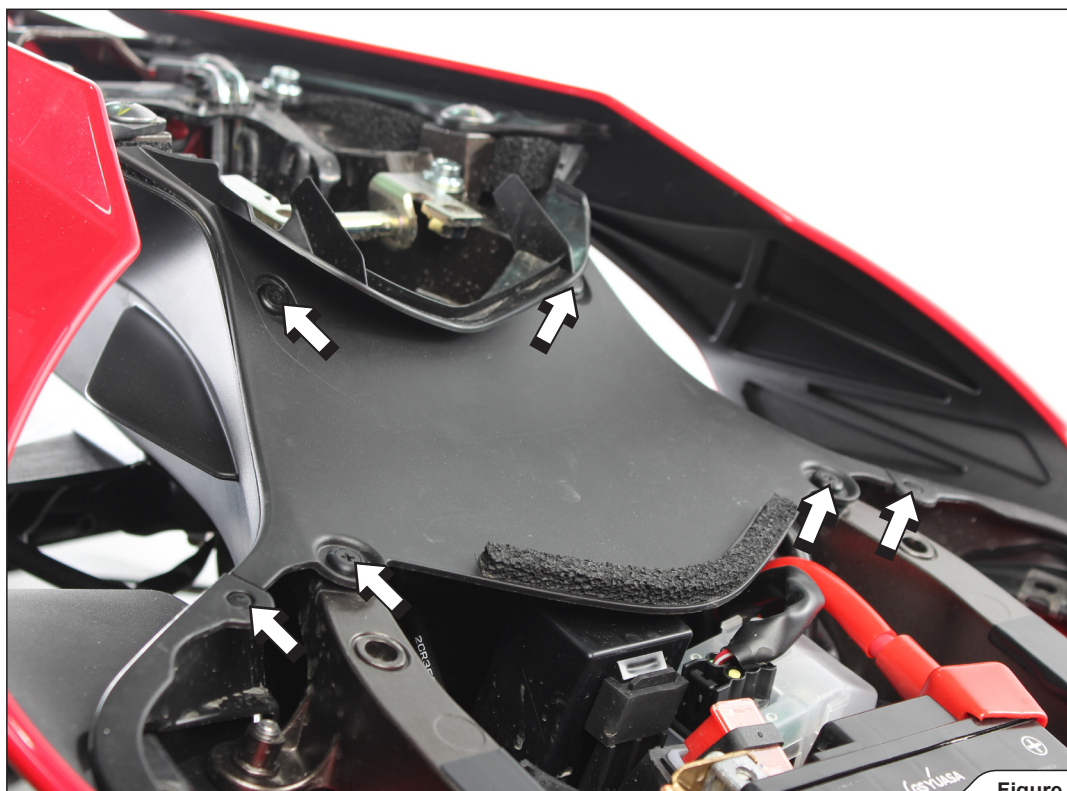

Figure 9
8. Unscrew and unpin marked bolts and carefully remove plastic cover off the motorcycle (Figure 9).